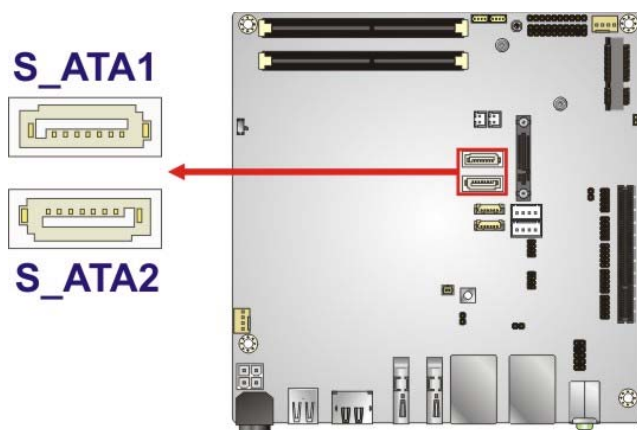

Figure 3-19: SATA 6Gb/s Drive Connectors Locations
- CN Location:** See **Figure 3-19**